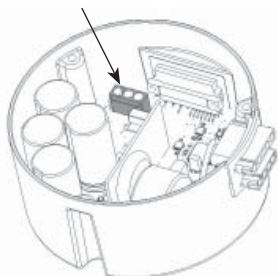

Figure 11b
6. Check phase to phase resistance between each of the three phase pins in the harness connector [Figure 11b]. Resistance levels between any two wires should be greater than 100K.